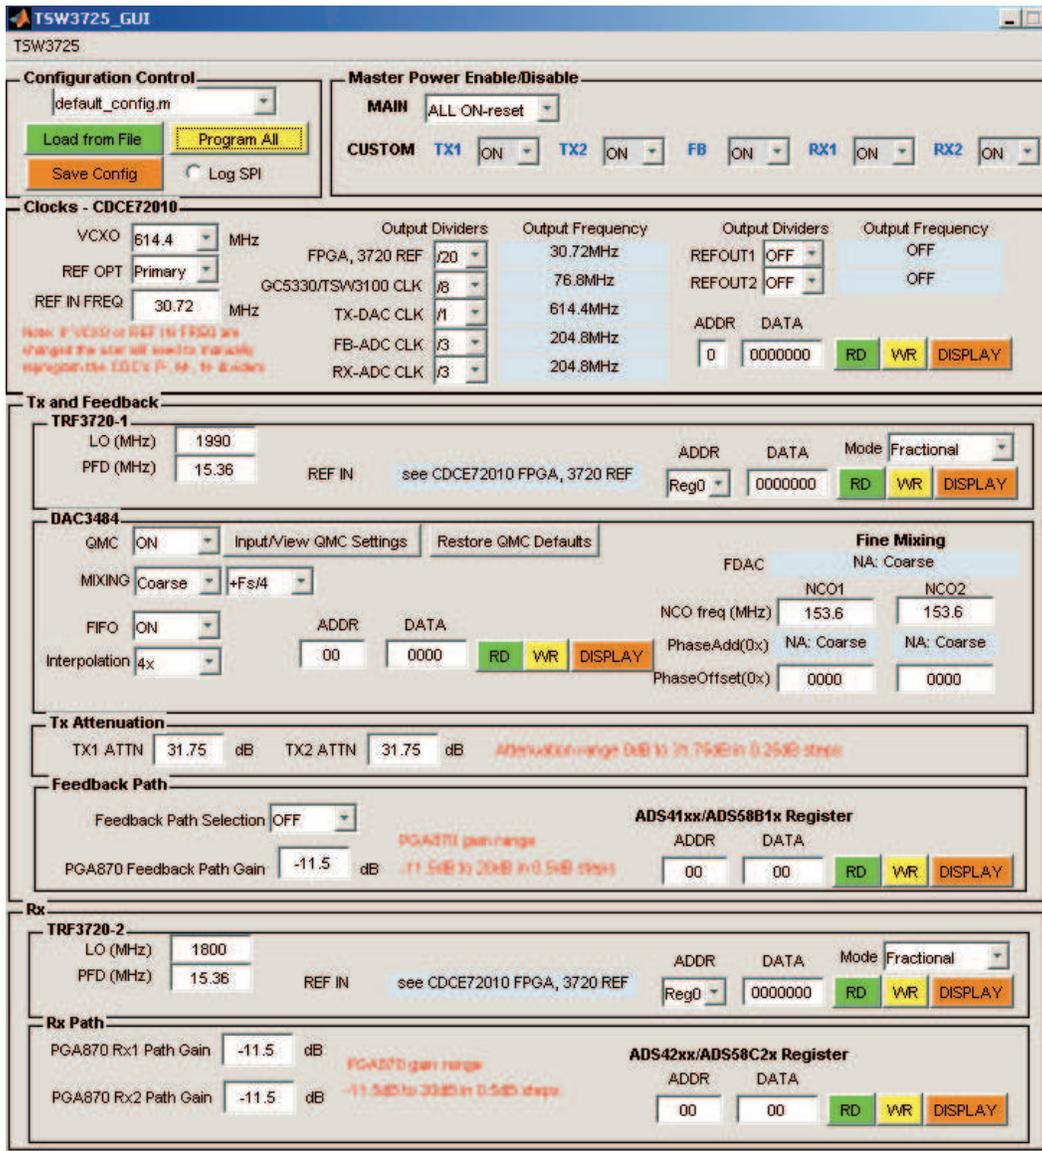

Figure 10. TSW3725 GUI After Load is Complete
- When programming is complete, the TSW3725 GUI appears as Figure 10 shows.